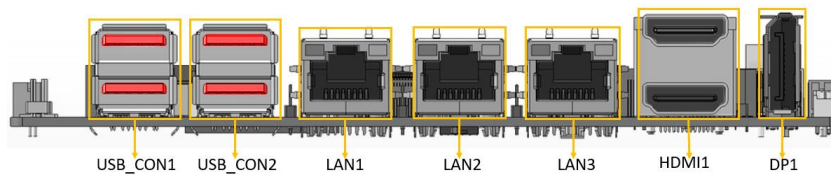

Figure 4-20: External Peripheral Interface Connector
Figure 4-20 shows the DRPC-W-TGL Series external peripheral interface connector (EPIC) panel. The EPIC panel consists of the following:
- CN Location:** See **Figure 4-20**